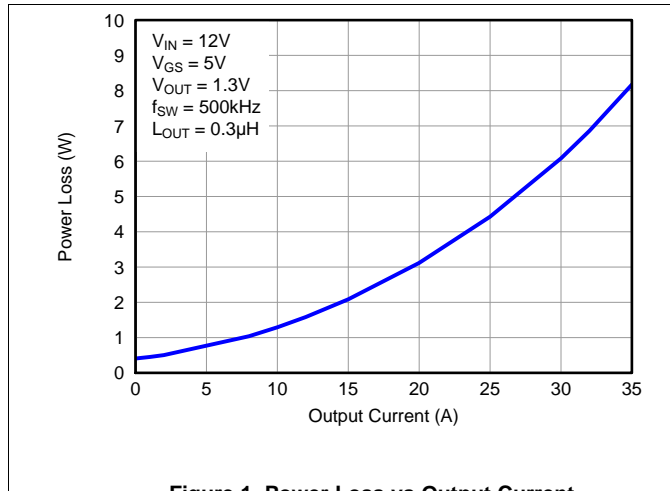
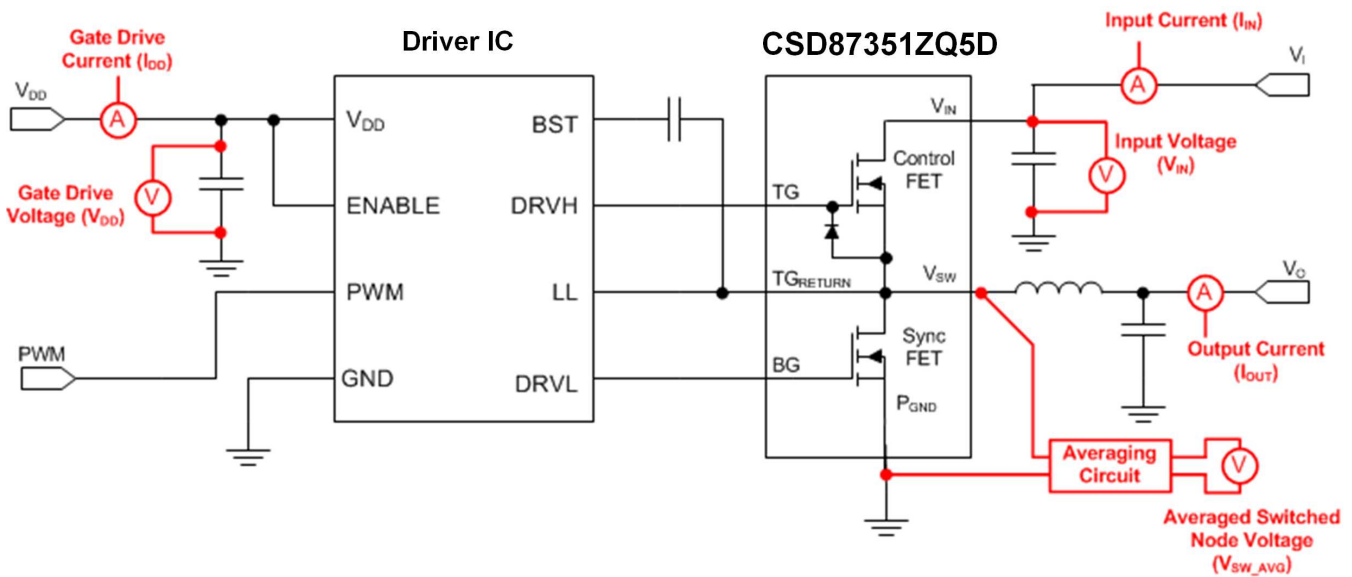

Figure 1. Power Loss vs Output Current
Figure 32. Typical Application
MOSFET centric parameters such as $R_{DS(ON)}$ and Q_{gd} are needed to estimate the loss generated by the devices. In an effort to simplify the design process for engineers, Texas Instruments has provided measured power loss performance curves. Figure 1 plots the power loss of the CSD87351ZQ5D as a function of load current. This curve is measured by configuring and running the CSD87351ZQ5D as it would be in the final application (see Figure 32). The measured power loss is the CSD87351ZQ5D loss and consists of both input conversion loss and gate drive loss. Equation 1 is used to generate the power loss curve.
The power loss curve in Figure 1 is measured at the maximum recommended junction temperatures of 125°C under isothermal test conditions.
- Power loss at 25 A = 3.5 W (Figure 1)